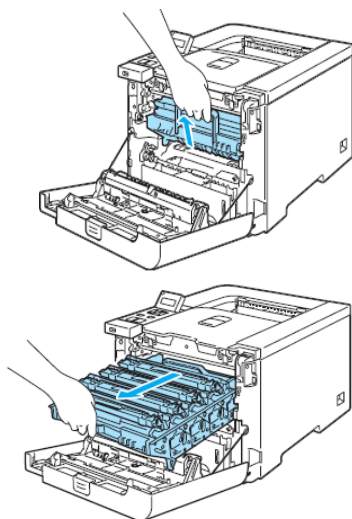

Fig 3
3. Pull up the grey lever on the left hand side to unlock and lift out the drum (Fig 3)